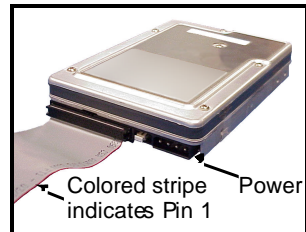

Figure I-1
Step 2: Next, you should install the drives into your Primary IDE controller, and connect the power. Attach one UltraDMA cable (black connector) to each drive (if you have a Slave drive, connect that drive to the second connector (grey connector) on the UltraDMA cable). Make sure that Pin 1 on the cable (indicated by the colored stripe) is connected to Pin 1 of the hard drive. See Figure I-1 (to the right) for an example.